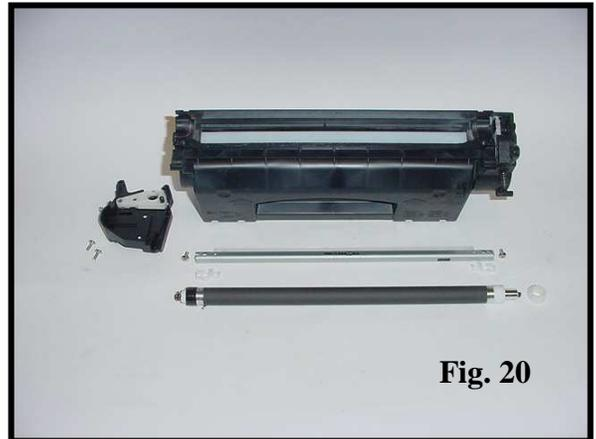

Fig. 20
20. Clean and / or replace all components. The cartridge has no fill plug, so toner will need to be added through the mag opening. Fill the cartridge with the correct gram load. Clean all contacts. Reassemble in reverse order (Fig. 20).